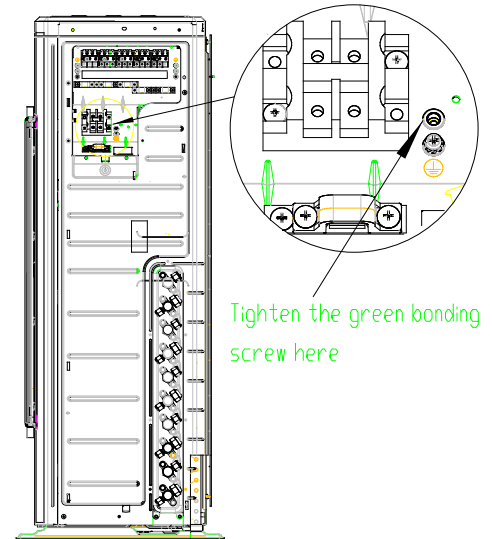

Fig 13
- (1). Open the side plate.
- (2). Connect the power cord to the terminals “L1” , “L2” and to the grounding bolt, and then connect the wiring terminals “N(1),2,3” of the indoor unit to those of the outdoor unit accordingly. Use the green bonding screw to connect the grounding cord. The location is showing in the Fig. 13.
- (3). Secure the power cord with wire clips.
- (4). Lead the power cord through the rubber ring.